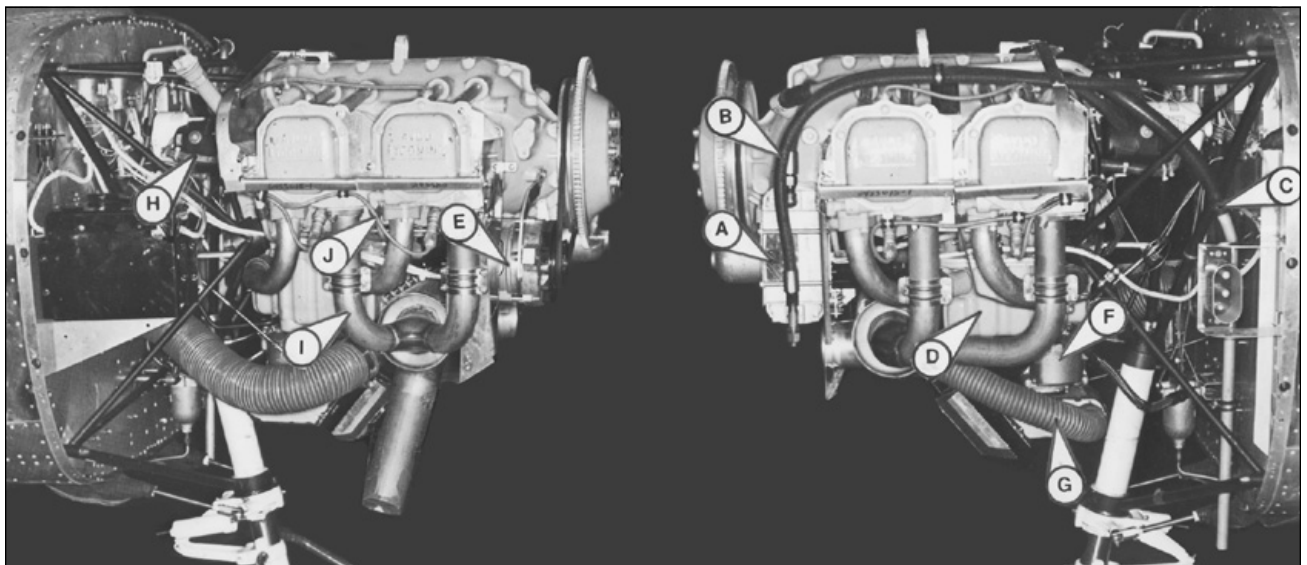

Figure B-13. Engine and system components for questions 09–17.
Questions 09–17 are based on Figure B-13.
07. 3. The carburetor is not getting heat. In this book it is noted that the warmer air is less dense and a slight power loss would result. (A figure of 100 rpm is given as an average, but it could vary among airplanes.) If no ice was present, the rpm would stay at the lower value as long as the heat was ON. If ice had been present when the heat was applied, the rpm would drop initially because of the warmer air and then pick up above the first setting as the ice cleared out. This question ties in with question 13 in that there is a good possibility that the heat hose is detached at one or both ends. (*See* item G in Figure B-13 and also *see* Figure 4-2.) You may have missed this in the preflight check but might catch it here, since that’s the purpose of pulling the heat ON. Don’t pull the carburetor heat ON and quickly shove it OFF. Leave it ON for 10 seconds to check an initial drop in rpm and to see if it has cleared out ice. As the answer to question 13 notes, without an operating carburetor heat you might get into icing conditions that could cause a forced landing. Taxi back to have the problem checked if the heat isn’t working properly during the pretakeoff check.